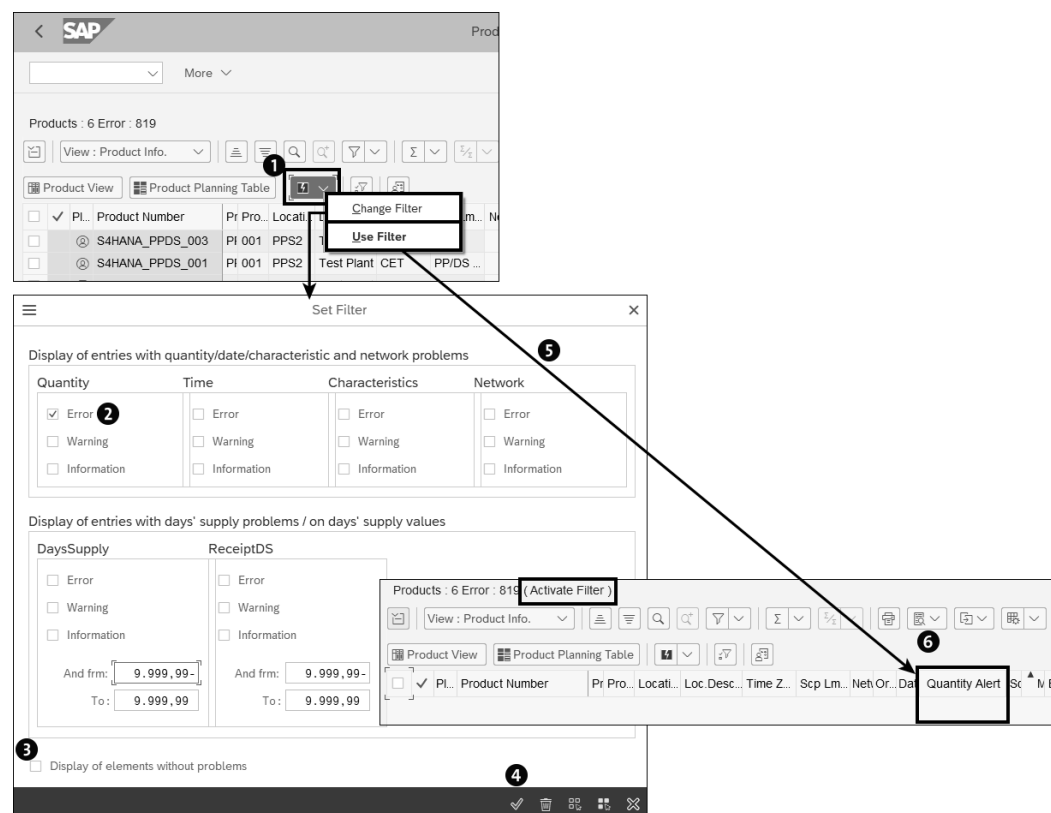

Figure 7.17 Filtering of Alerts in Product Overview
It's also possible to filter the alerts within the product overview transaction. For example, when there are information, warning, and error alerts, and you want to filter the products with only error alerts for any quantity-related alerts, click on the **Filter Products** button ❶ on the screen, and click on the **Change Filter** option. In the resulting popup screen, deselect all the options except **Error** ❷ under the **Quantity** tab, also deselect the **Display of elements without problems** checkbox ❸, and then click OK ❹. Click on the **Filter Products** button again, and select the **Use Filter** option ❺. This will filter the quantity alerts column with only the error alerts ❻, as shown in Figure 7.17.